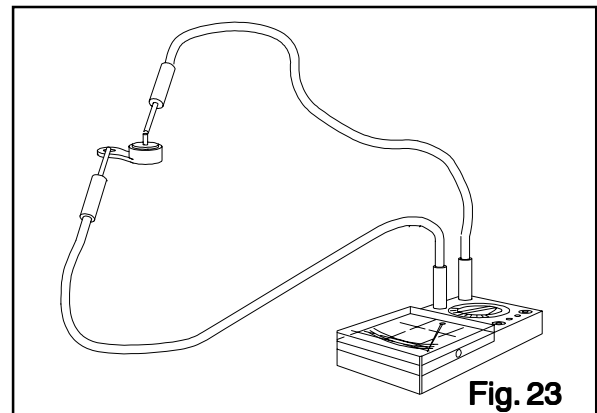

Fig. 23
-Verify there is no continuity between (+) and ground (Fig.23).